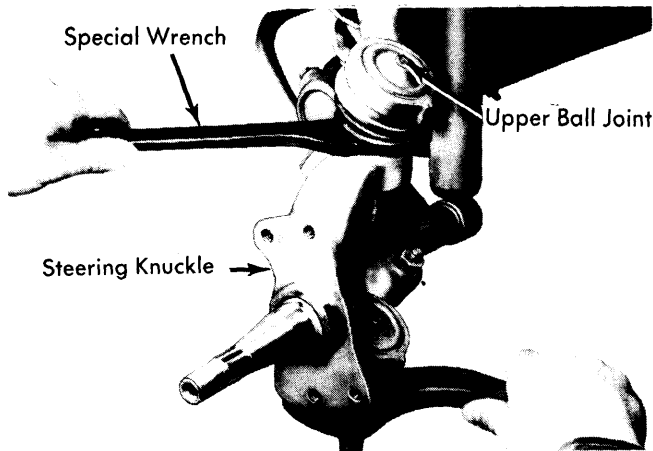

Fig 2 Removing Upper Ball Joint from Steering Knuckle
2) Remove splash shield from steering knuckle. Take off lower ball joint nut and press joint from knuckle. Remove upper ball joint nut, then with suitable wrench, turn camber eccentric adjusting bushing until joint is free from knuckle. See Fig 2.